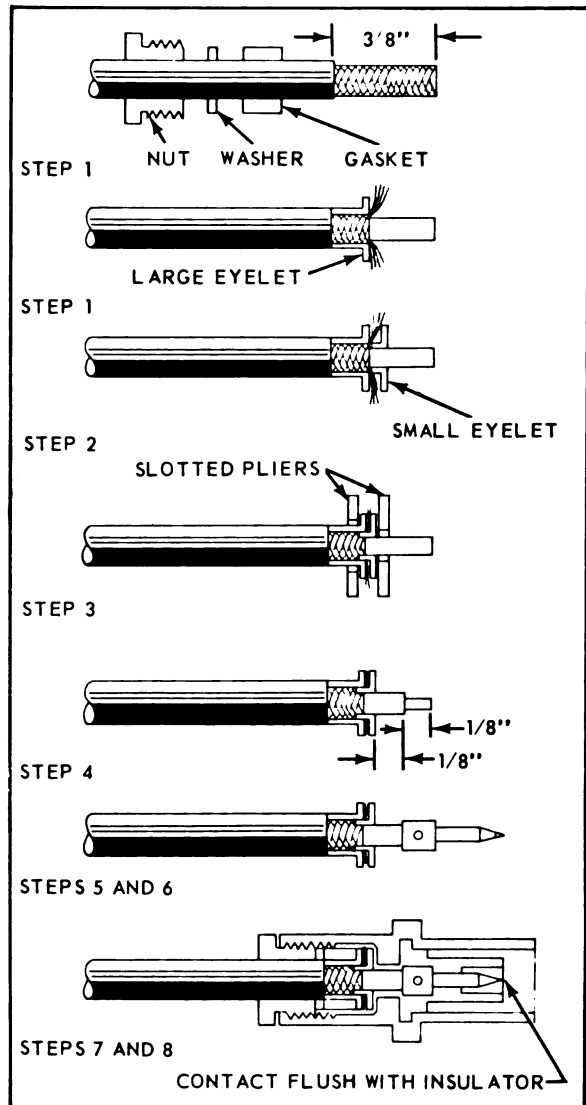

Figure 4-42. Attaching Liquidometer 9100 Series Connectors to Coaxial Cable
c. Assembly of Liquidometer 9100 series connectors to RG-58/U coaxial cable: (See figure 4-42).
3. Clamp the braid between the two eyelets with special slotted pliers as shown, (see figure 4-42). Trim off excess braid.